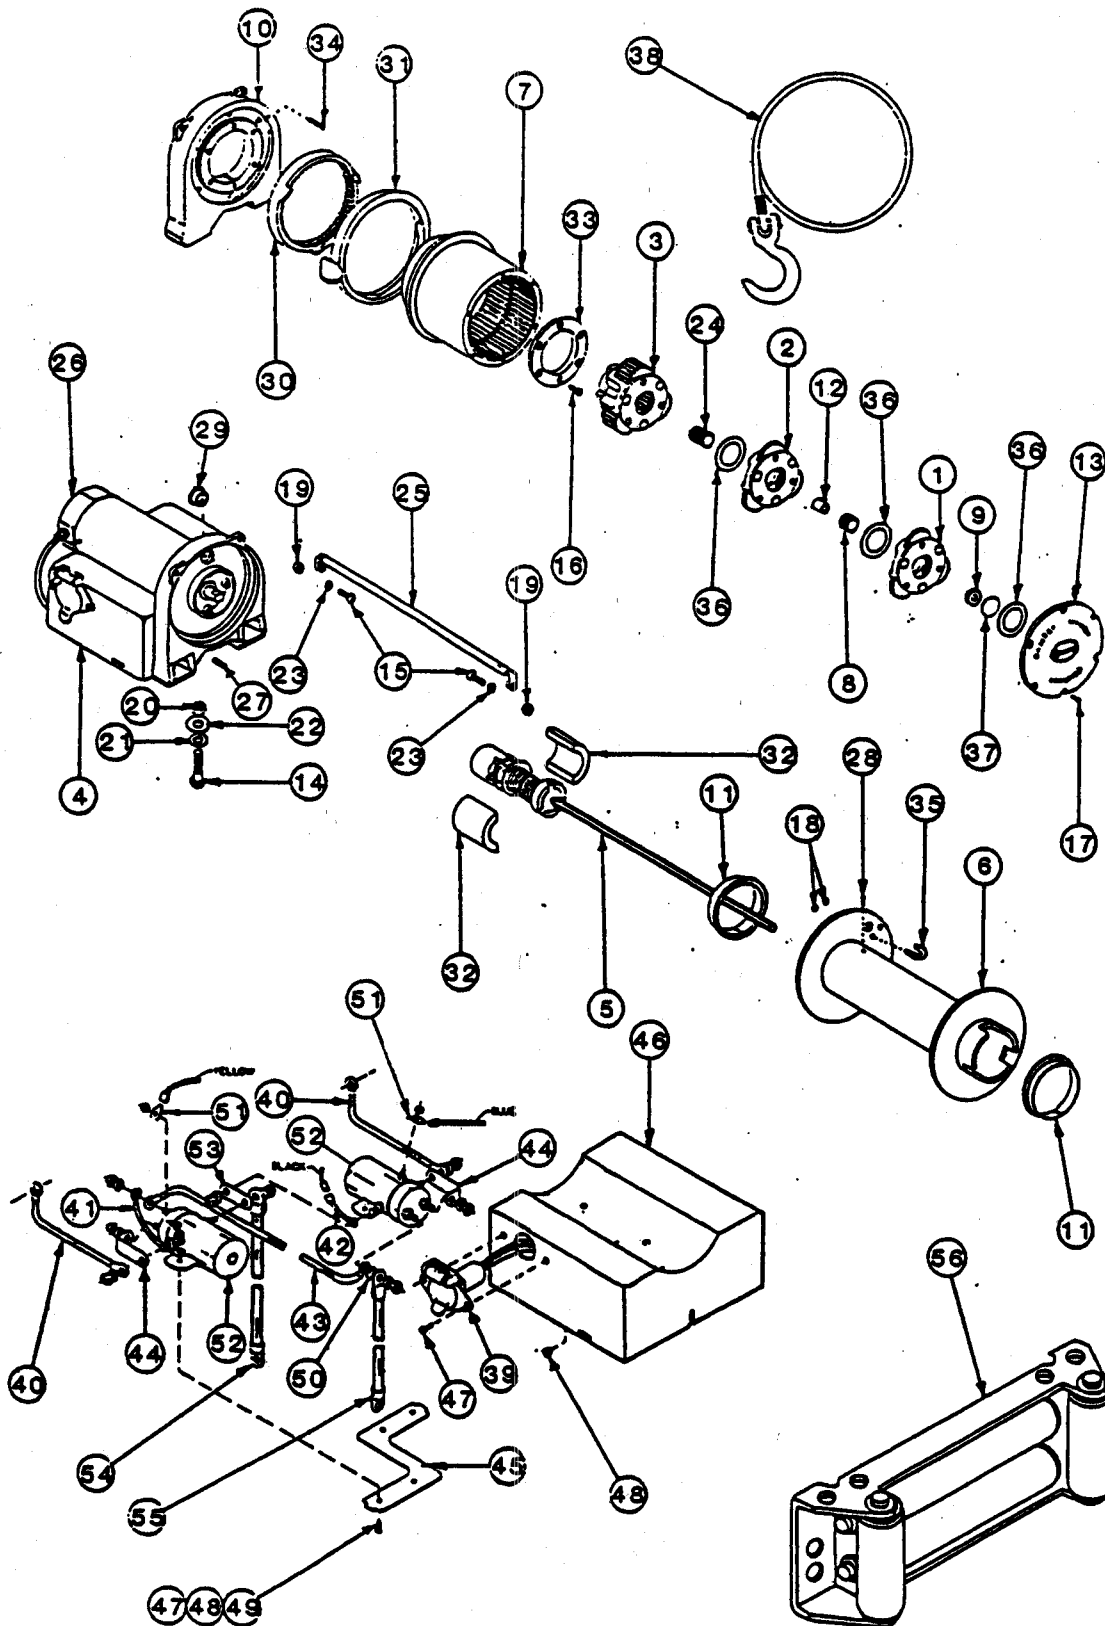

Figure 10. Below Deck Electric Winch
56. Fairlead Roller assembly - (See Figure 10)